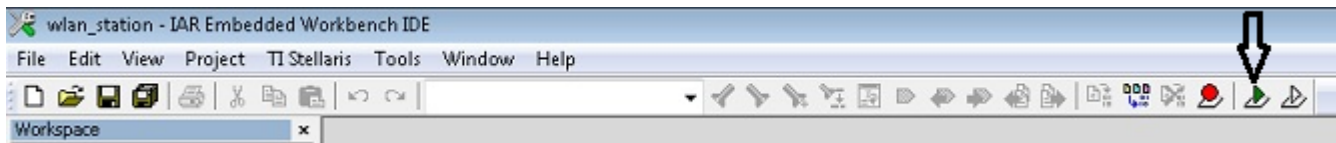

Figure 23. Debug Icon
7. Click the debug icon as shown in Figure 23 to download code to the device and start debugging. Select *Debug>Go* from the menu or press F5 to begin execution.